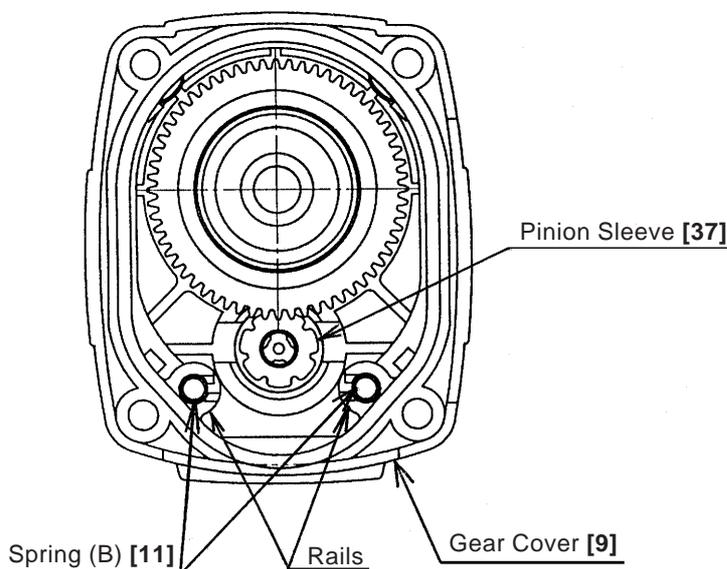

Fig. 1
- Remove Springs (B) **[11]** from the rails in the Gear Cover **[9]** as shown in Fig. 1.